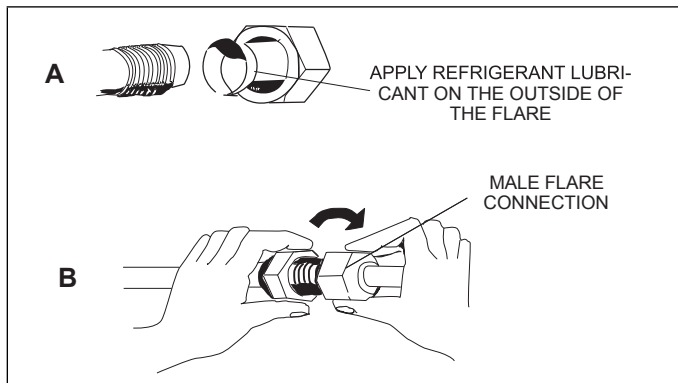

Figure 31. Making Connections (Male to Female Connection)
15. Align the threaded connections with the flared refrigerant lines. Tighten the flare nuts lightly at first to obtain a smooth match as illustrated in "Figure 31. Making Connections (Male to Female Connection)".